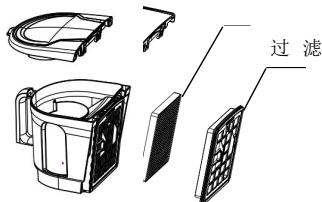

Fig.17
- 4) As in fig.17, get the HEPA cover